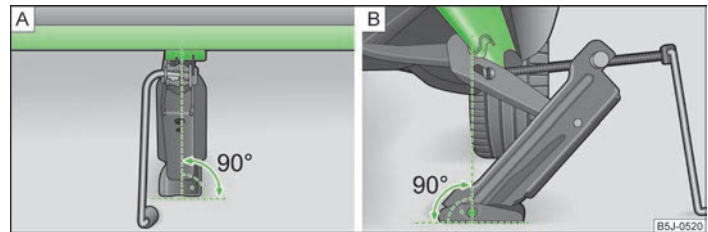

Fig. 158 Attach lifting jack
- Align the lifting jack so that its claw grasps the web » Fig. 158 - under the marking.
- Ensure that the entire surface of the lifting jack base plate rests on level ground and is located in a vertical position to the area » Fig. 158 where the claw grasps the web.